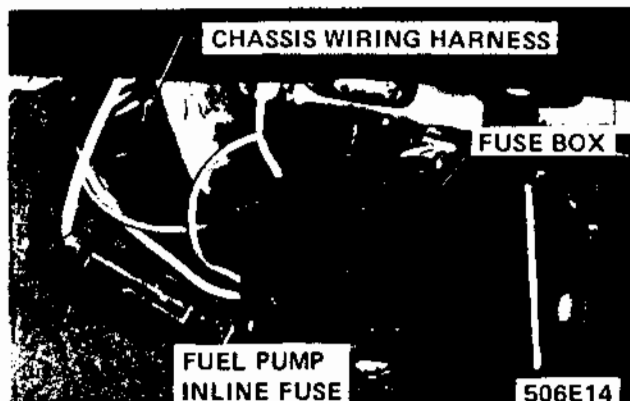

Figure 6E-14 Location of Fuel Pump Fuse
4. Using test lamp J-25401-3 in the same way, probe terminal 86C. See Figure 6E-13. Test lamp should light when ignition switch is turned on. If not, the wire between the plug and the ignition switch has an open.